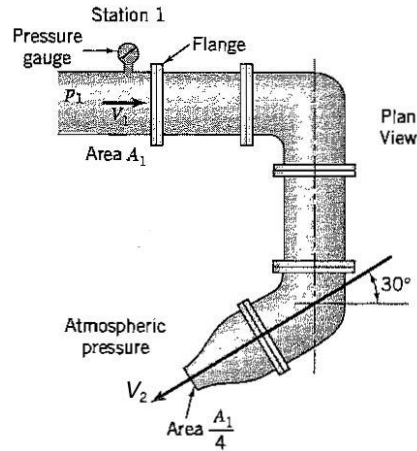

Figure P4.23
4.23 Air of constant density ρ flows steadily through the horizontal pipe system shown in Figure P4.23. The air flow exits to atmosphere through a 4:1 contraction. Assume one-dimensional flow, neglect losses, and neglect the weight of the piping.